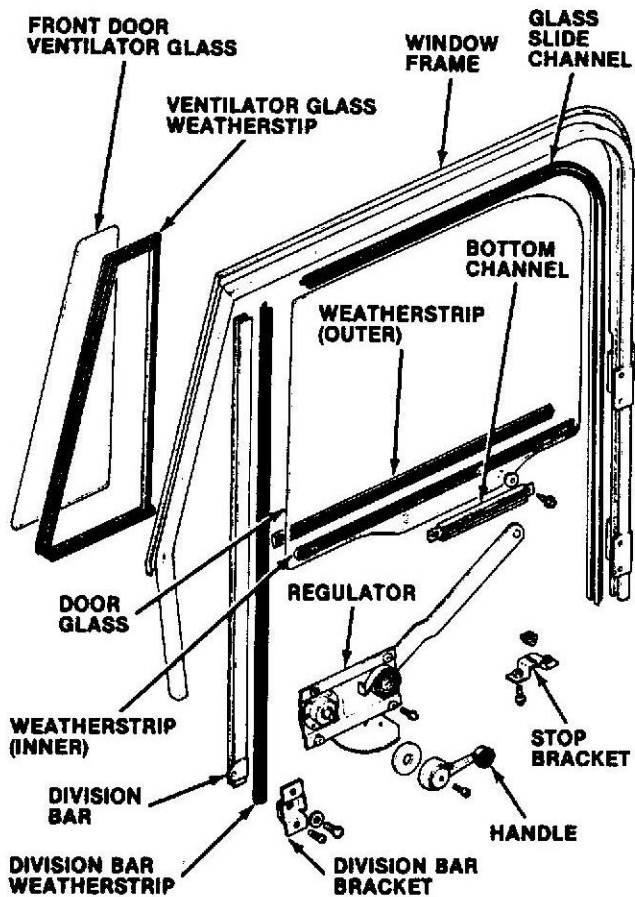

Fig. 11 Metal Door Glass, Channel, and Frame Assembly
The metal doors used on Scrambler models are similar to the doors used on current 1981 CJ models and are equipped with the new remote-type inside and outside door handles (Fig. 10). The door glass, channels, and window regulator mechanism are the same as used in current CJ models (Fig. 11). The door handle, lock, and striker service procedures are outlined in this bulletin. Refer to the 1981 Jeep Technical Service Manual for all other door service and adjustment procedures.
- (2) Remove door trim panel and watershield paper from door.
- (3) Remove door lock cover attaching screws.
- (4) Disconnect lock-to-handle rod from outside door handle.
- (5) Close window completely, release spring on each outside door handle keepers and tap keepers upward.
- (6) Remove window door glass from regulator (Fig. 11).
- (7) Remove division channel by removing adjusting screws.
- (8) Remove window glass from door.
- (9) Remove outer weatherstrip from door.
- (10) Remove locks from outer door handle using needle-nose pliers and remove handle from door.
- (4) Install outer weatherstrip on top of door.
- (5) Position window glass in door (Fig. 11).
- (6) Install divider bar and adjusting screws.
- (7) Attach window glass to regulator.
- (8) Install door lock cover.
- (9) Install watershield paper and door trim panel.
- (10) Install window regulator handle.
- (11) Install door handle assist.